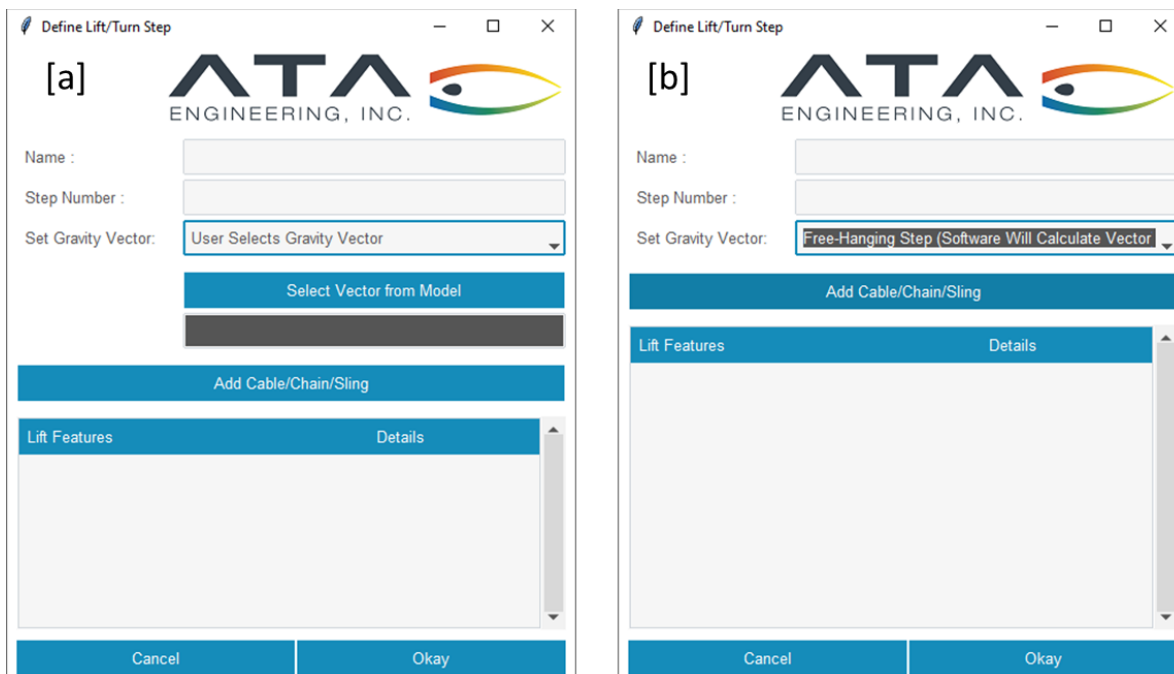

Figure 4. Window to define a lift step where the gravity vector is [a] defined by the user or [b] calculated.
As stated above, clicking “Add Lift/Turn Step” opens the “Define Lift/Turn Step” window shown in Figure 4. In this window, the user gives the step a name and number (to keep steps in the correct order), selects the gravity vector, and adds cable paths. The user must select a gravity vector because the Lift and Turn tool simulates the rotating of the ship module by changing the reference frame of the analysis for each step (rather than rotating the FEM itself, which would require managing multiple FEMs). For the gravity vector, there are two options: (1) the user can select a vector from the Femap model (appropriate for most lift steps; shown at left in Figure 4) or (2) allow the vector to be calculated (for a free-hanging step; shown at right in Figure 4). If the user chooses the first option, they will need to set the gravity vector by clicking “Select Vector from Model” and selecting a vector using the dialog box that appears in Femap. After the user